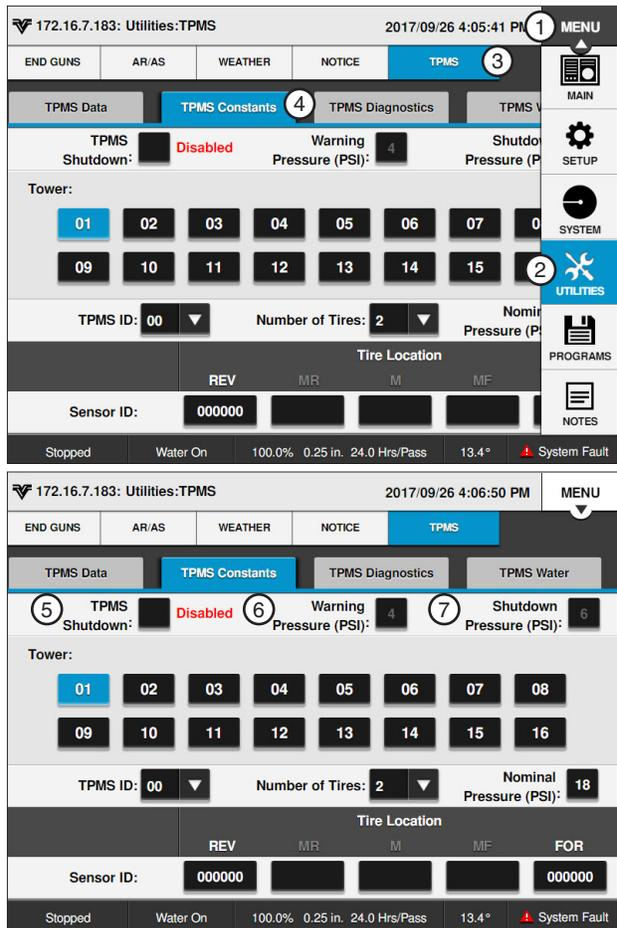

Figure 82-1 1. Menu 5. TPMS Shutdown
The TPMS Constants screen is used to set the following constants. Refer to Figure 82-1:
The system can be set to shut down if tire pressure falls below a set amount. See Figure 82-1.
2. Using the numeric keypad, enter the pressure value for the pressure drop warning. Refer to Figure 82-1.